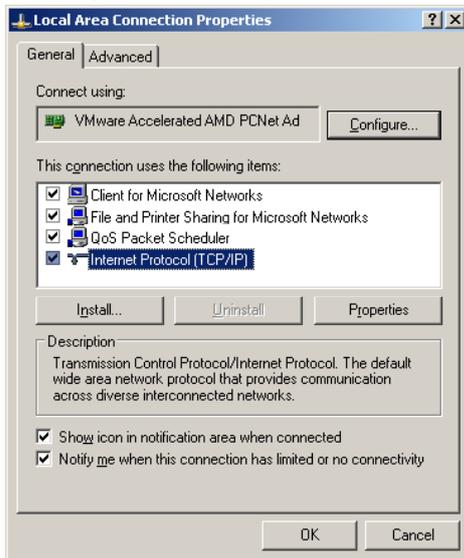

Fig. A-5 Configuring a network connection
3. Open the context menu of the corresponding network connection by right-clicking. Select the menu item Properties. You now see a screen similar to that in Fig. A-5.